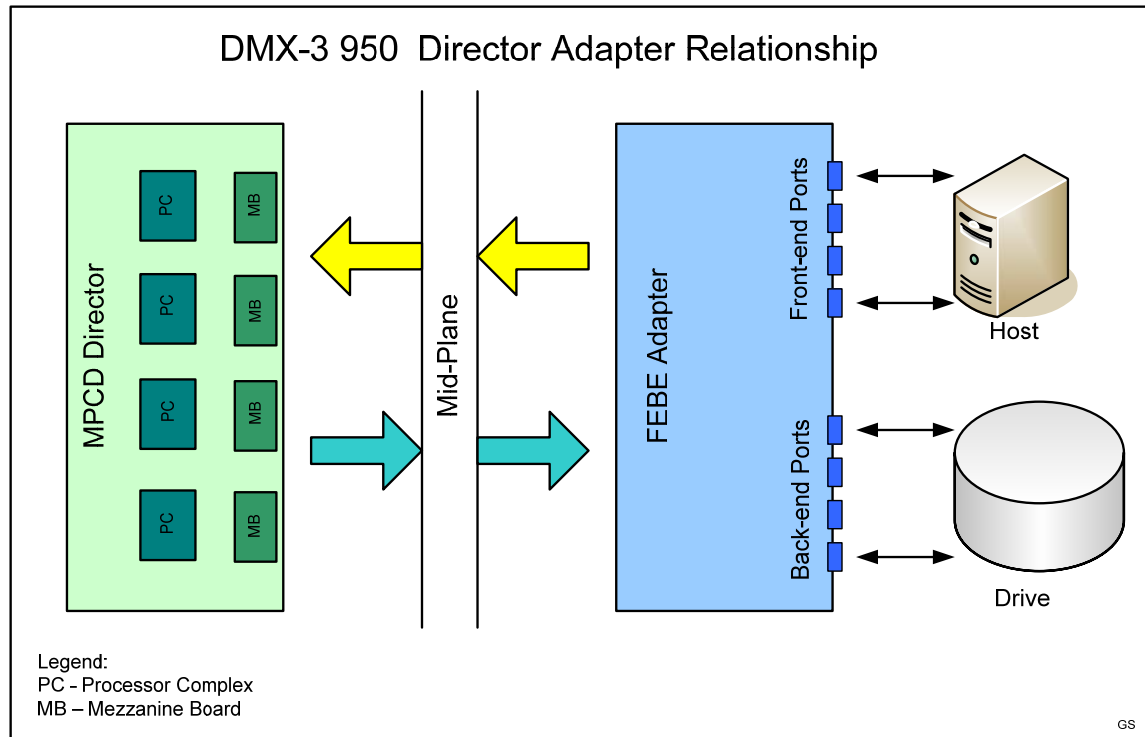

Figure 1:
1. The primary architectural difference between the DMX-3 950 and the standard DMX-3 is the combination of functions provided by the MultiProtocol Channel Directors (MPCD) and Front-End Back-End (FEBE) adapters. Figure 1, depicts the connectivity relationship between the MPCD director and FEBE adapter: